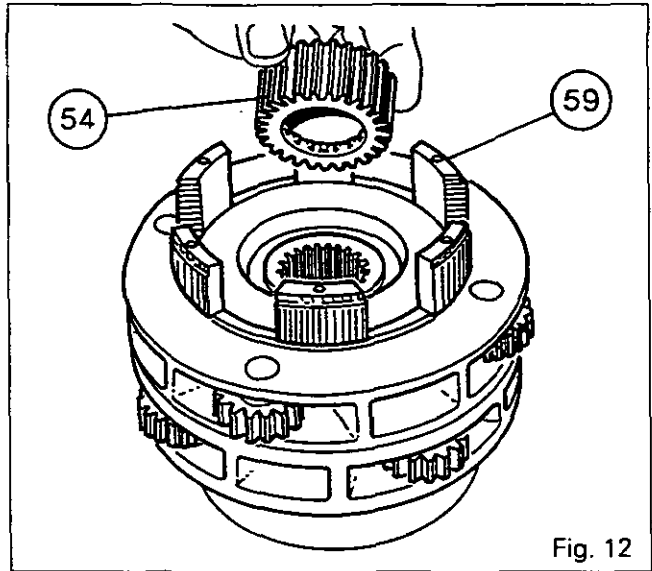

Fig. 12
40. To gain access to bolts (46), turn over the planetary carriers. Fit the secondary sun gear (61), the rear clutch housing (59) and the hub (54) with its internal splines facing downwards (Fig. 12). Fit the rear clutch driving plates (50), the driven plates (48), the backing plate (45) and the Belleville washer (52) in accordance with Fig. 1, and the cover (47).